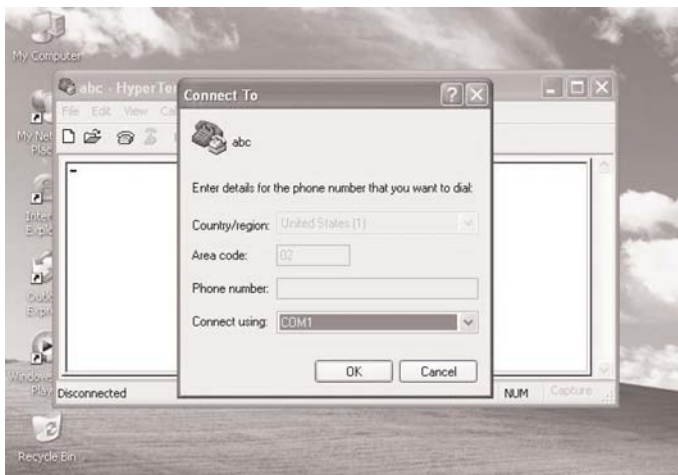
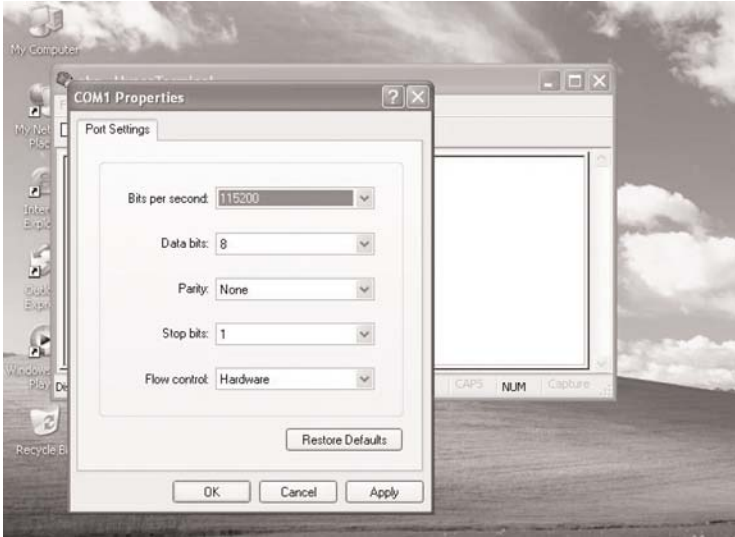

Figure 3-8. Selecting the port.
Figure 3-9. Port Settings screen.
4. In the Name field, type in a name (for example, abc). Next, click on an icon to correspond to the chosen name. Then click on **OK**, or click on **Cancel** to type in a different name and/or select a different icon. If you click on **OK**, Figure 3-8 appears.
- If you click on **OK** in Figure 3-8, the screen shown in Figure 3-9 appears.
8. If you click on **OK** in Figure 3-9, the screen shown in Figure 3-10 appears.